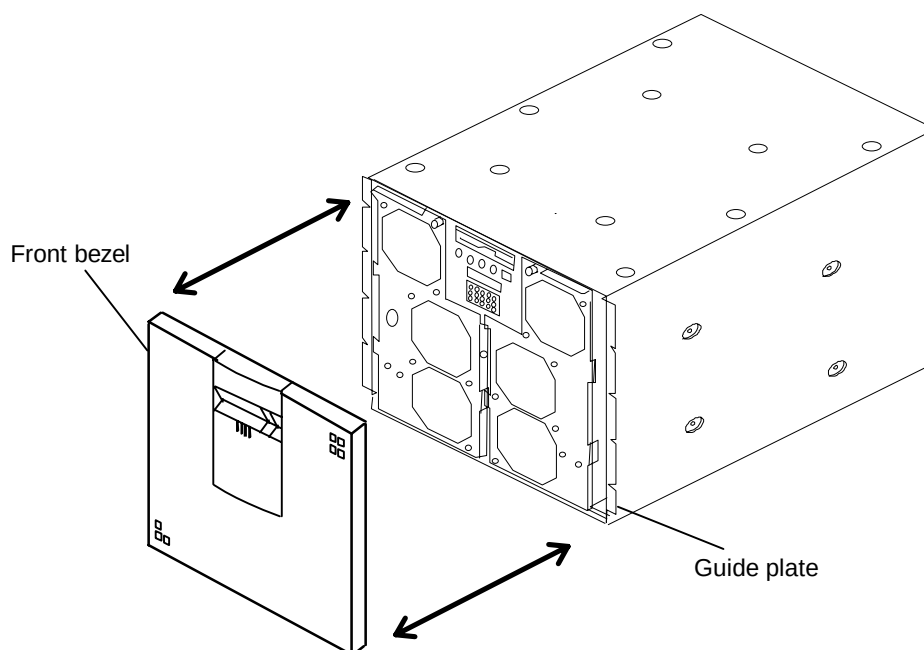

Figure 3.2.1 Attaching and Removing the Front Bezel
(1) Removing procedure (See Figure 3.2.1.)
① Hold the grooves on both sides of the front bezel and pull it toward you.
(2) Attaching procedure (See Figure 3.2.1.)
① Fit the guide plates of the main body and press the front bezel against them.